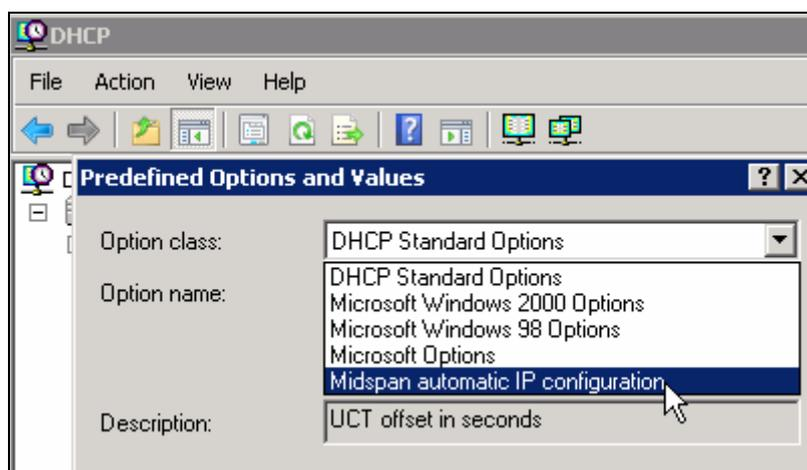

Figure 4-25: Adding Predefined Sub Types
3. Select the new Option Class - Midspan automatic IP configuration (see Figure 4-25).